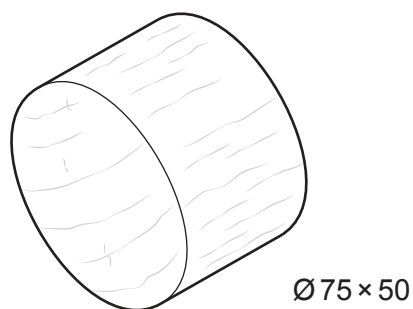

Fig. 12.3
- (c) Fig. 12.3 shows the disk onto which the roll of tape fits.